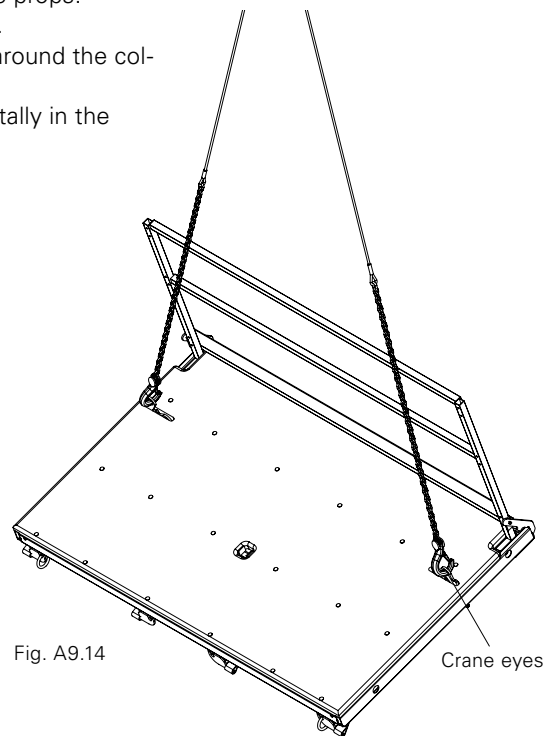

Fig. A9.14
7. The platforms are now moved to the next place of use. (Fig. A9.14)